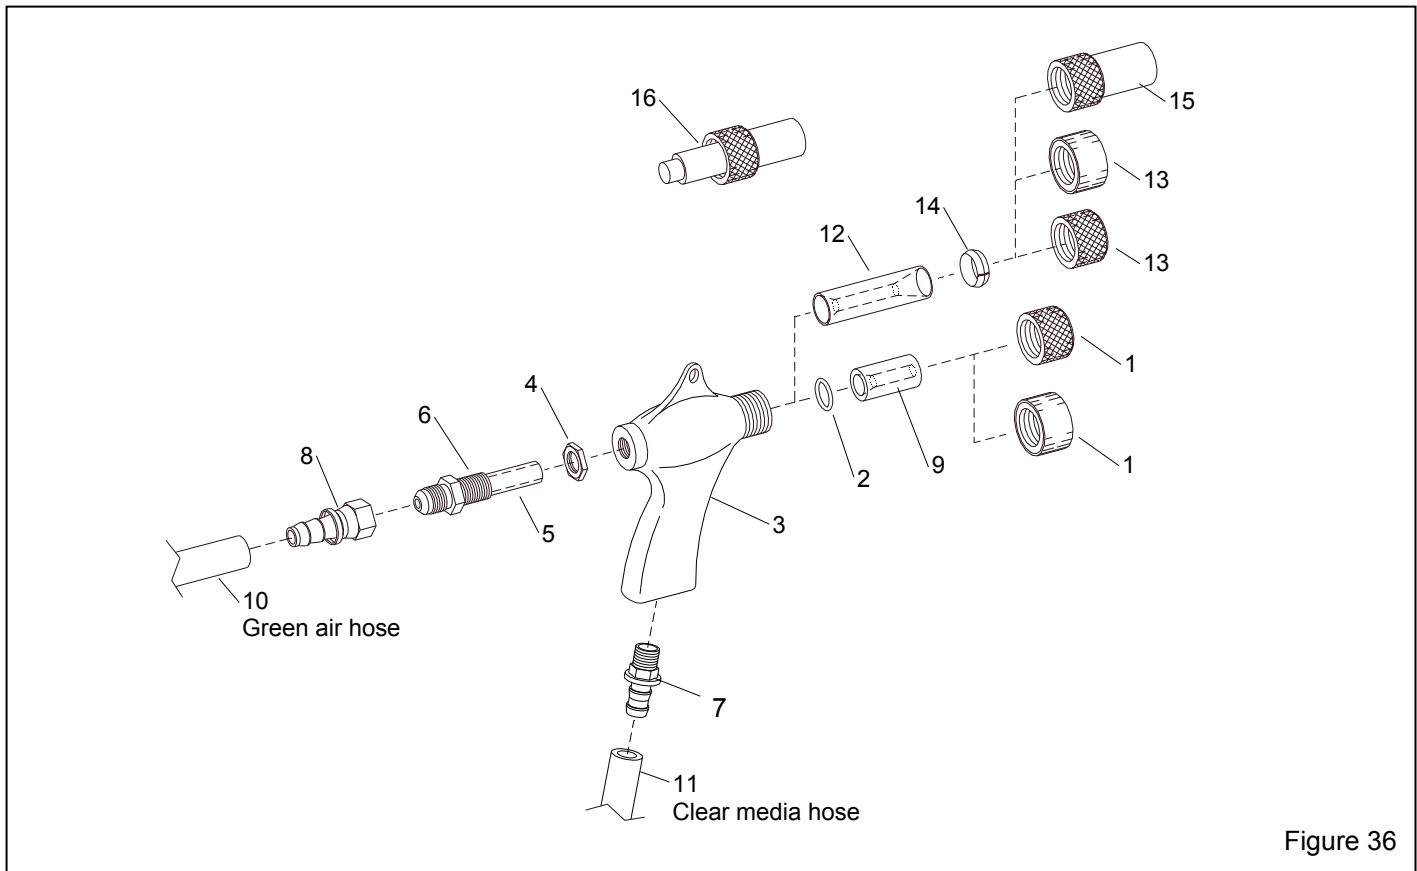

Figure 36
9.7 BNP Gun and Feed Assembly, Figure 36